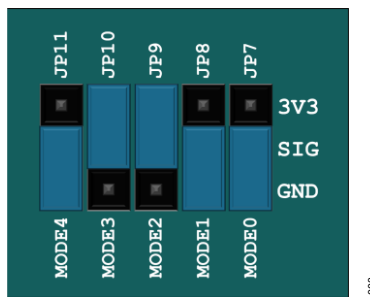

Figure 2. ZedBoard Boot Configuration Jumpers
14. Before powering up the ZedBoard, ensure that the VADJ (JP18) is configured at 2.5V by placing the shunt connector to its correct header. Ensure that the ZedBoard's boot configuration jumpers (J7 to J11) also follow Figure 2.